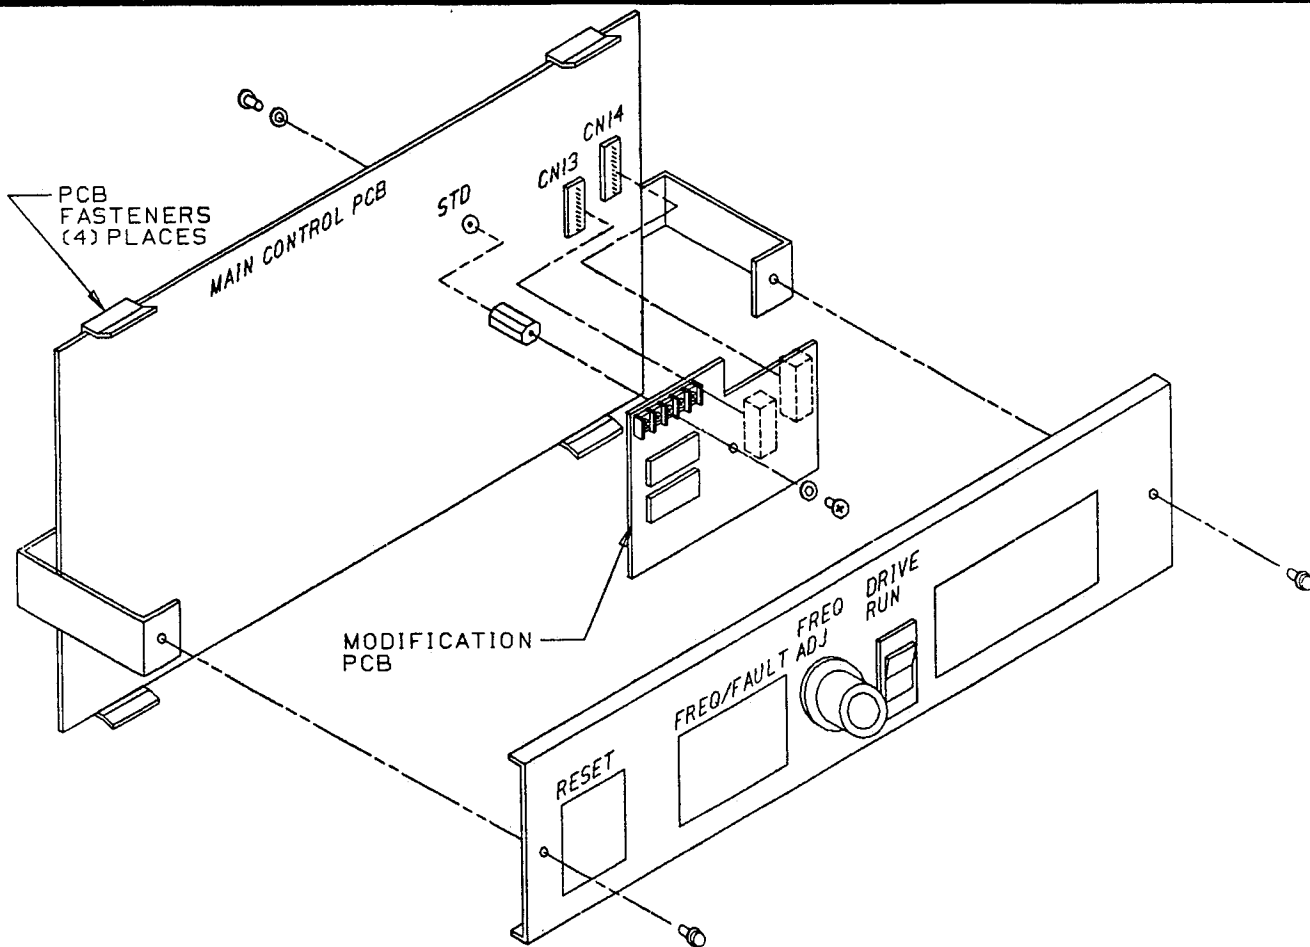

FIGURE 2.
a. See Figure 2. Remove the two screws which secure the existing Operators Control Station (OCS) plate; retain the screws. Leave the wiring between the OCS plate and the Main Control PCB terminal strip intact. Allow the plate to drop down below the PCB.
b. See Figure 2. The Main Control PCB is held in place by (4) hinged locking PCB fasteners. Grasp the top of board in a convenient location and release from the top (2) fasteners by gently pulling the board forward while pushing upward on the locking portion of the fasteners. Pivot the top portion of PCB out and away from chassis.
c. See Figure 2. Insert one set of mounting hardware thru the 0.12 inch diameter hole designated "STD" on the Main Control PCB, from the rear side. Tighten the metal spacer onto the screw. Then snap the Main Control PCB back into place.
d. See Figure 2. Note that the modification PCB has (2) 11-pin female connectors (CN13A and CN14A) mounted on the back side of the board. Align these connectors with the male pin CN13 and CN14 connectors on the Main Control PCB. Ensure that all 22 pins are engaged, then snap into place. Use the other set of hardware to secure the PCB to the metal spacer.